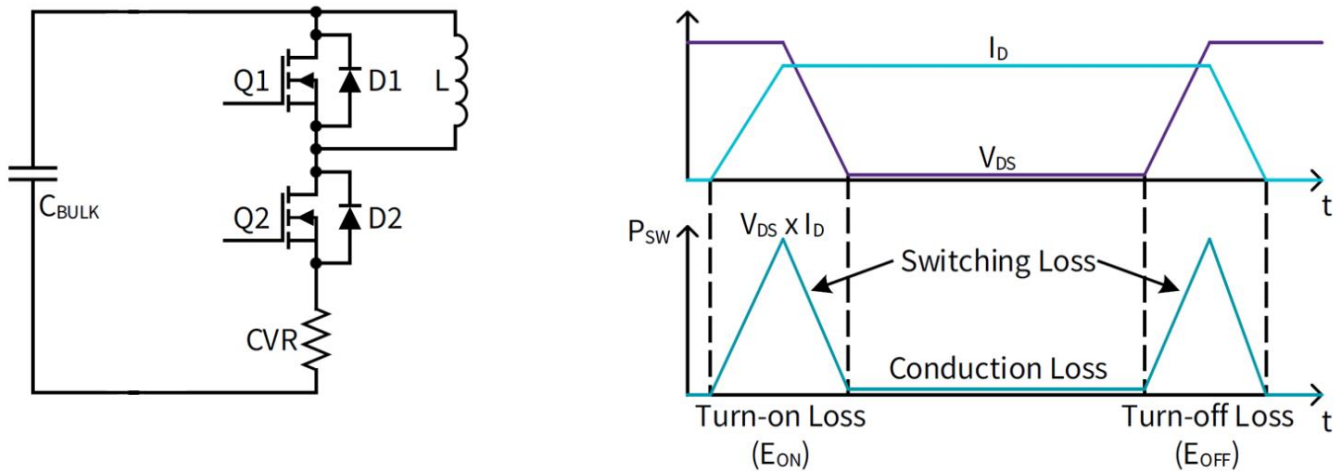
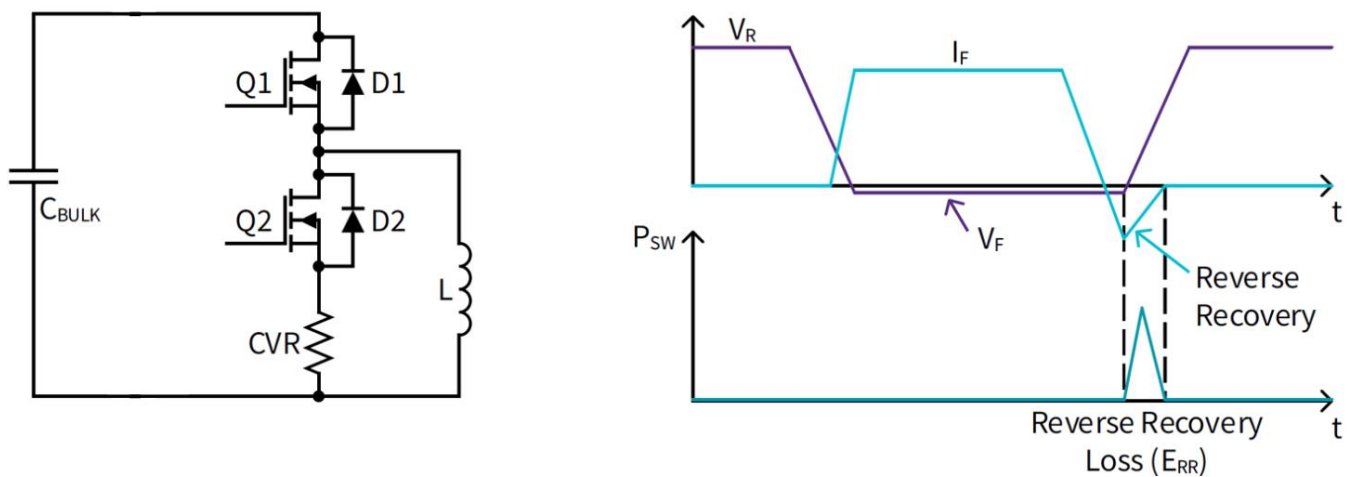

FIGURE 2: CIL TEST FIXTURE USED TO MEASURE THE SWITCHING LOSS OF MOSFET Q2 (LOW-SIDE)
FIGURE 3: CIL TEST FIXTURE USED TO MEASURE THE SWITCHING LOSS OF ANTIPARALLEL DIODE D2
There are two types of switching events: actively switched (MOSFET) and forced commutation (antiparallel diode). The test fixtures to measure both events are given below in Figure 2 and Figure 3, respectively. Q1 and Q2 represent the respective switch positions of the Wolfspeed LM half-bridge power module. Likewise, D1 and D2 represent the antiparallel diodes of each switch position. For both tests, film capacitors (C_{BULK}) are used for bulk energy storage to provide the needed energy transfer to the inductor (L) for the switching event, they also provide a low-inductance switching loop. For MOSFET switching measurements in Figure 2, the inductor is connected across the upper switch position of the module from the midpoint to the positive bus rail while Q1 is held off and Q2 is pulsed; for body diode switching measurements in Figure 3, the inductor is connected across the lower switch position of the module to the negative bus rail while Q1 is pulsed and Q2 is held off.